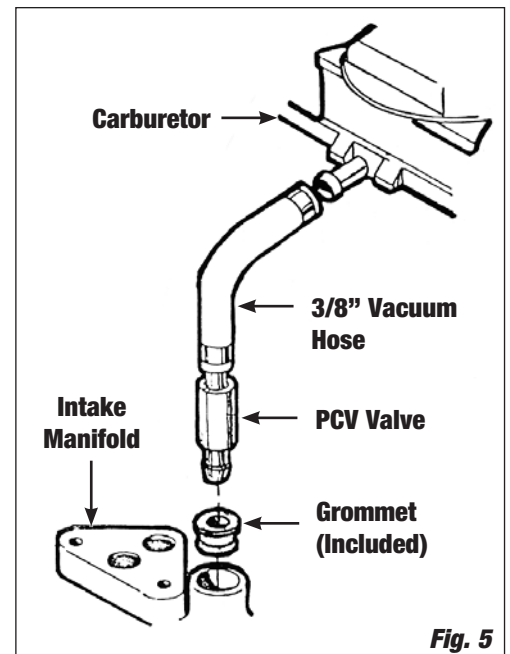

Fig. 5
- **PCV VALVE:** Some engines use a PCV valve that is clamped to a hose between the carburetor and manifold. The stock AMC manifold has a 3/8" NPT pipe port at the manifold rather than a hole to accept a rubber grommet which the Edelbrock manifold uses. To re-install the PCV valve to our manifold, use the provided grommet and 10" of 3/8" vacuum hose (*See Figure 5*).